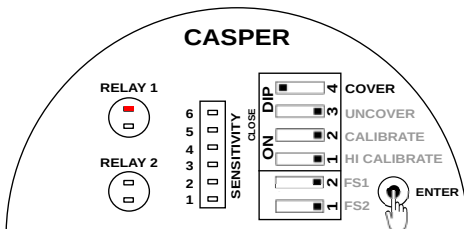

Figure 9: Setting Cover Delay
- Press ENTER and keep it pressed as shown in Figure 9. The STATUS RED LED of Relay 1 will start blinking. Count the number of blinks. After setting the value release the ENTER key.